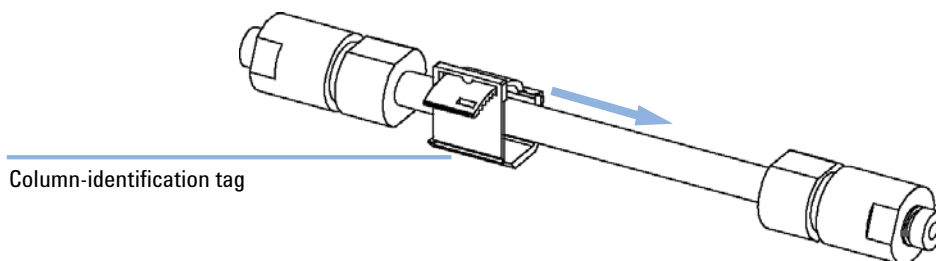
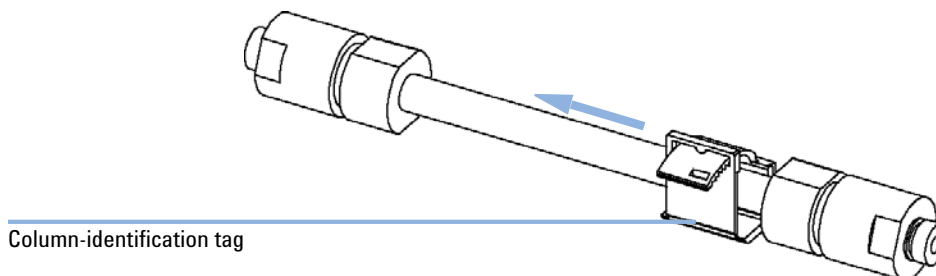

Figure 31 Column-Identification Tag for Left Heat Exchanger
Figure 32 Column-Identification Tag for Right Heat Exchanger
- 2 The tag needs to be placed differently, depending on whether the column is installed at the left or right heat exchanger, see Figure 31 on page 98 and Figure 32 on page 98. The Agilent logo should always be at front.